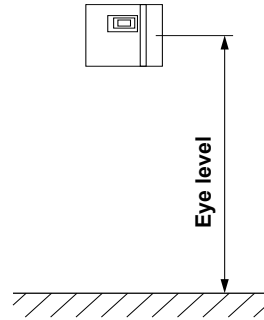

Fig. 3
1. The 3 mm diameter boreholes for the supplied wood screws 4 x 25 mm to be drilled according to the dimensions shown in Fig. 3 + 3.1.